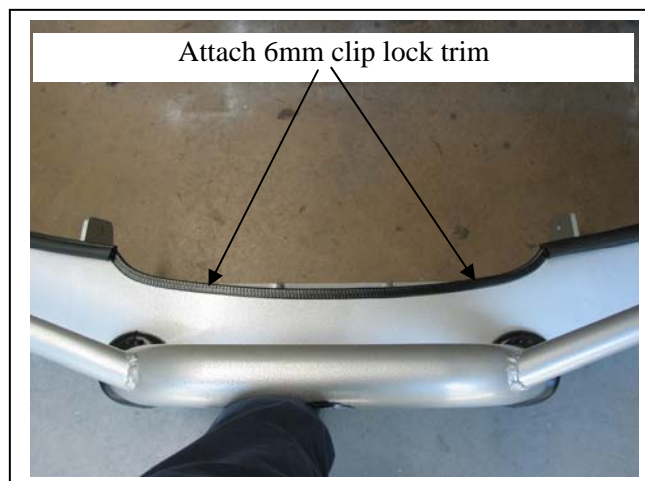

Figure 8
10. Fit clip lock trim (supplied) to centre of protection bar. **See figures 8 and 9.**